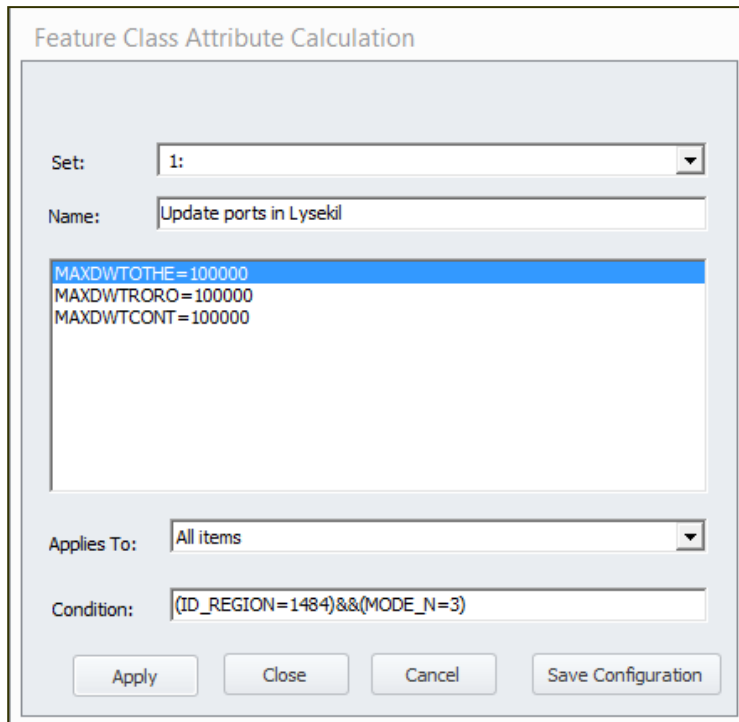

Figure 59 The Feature Class Attribute Calculation window
- Modify values based on a condition. Under Link or Node (depends on the type of layer) on the menu bar, the “Compute” option is available when the session is in Edit mode. By selecting “Compute”, access is given to the Feature Class Attribute Calculation window, shown in Figure 59. In this window, it is possible to edit the values and apply a condition (in the example in Figure 59, the capacities for all ports in the Lysekil region are updated, more details on this specific example can be found in Section 9.6).